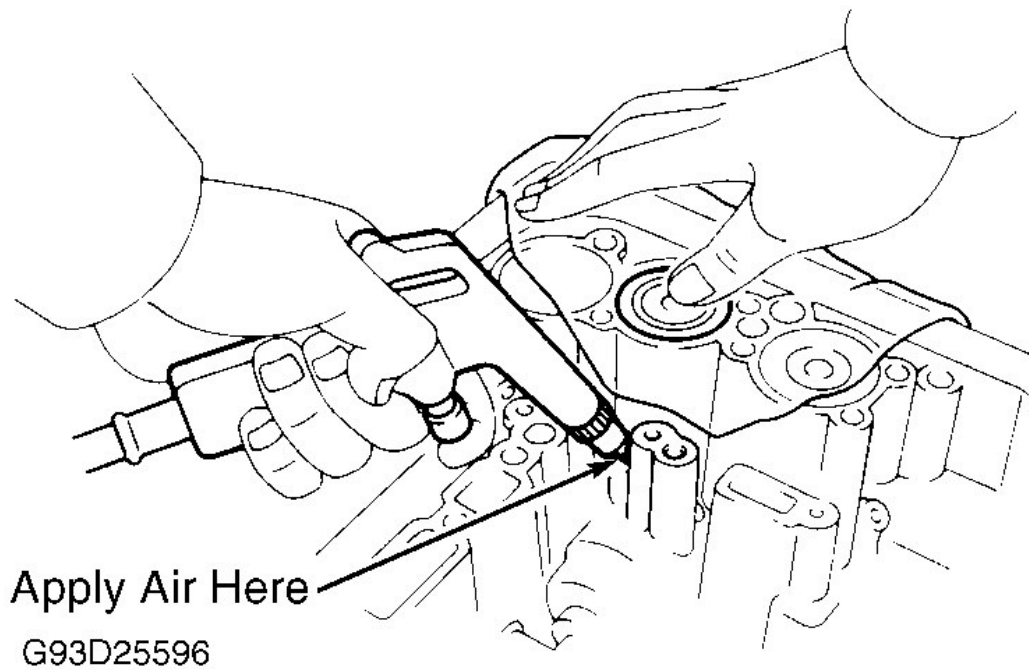
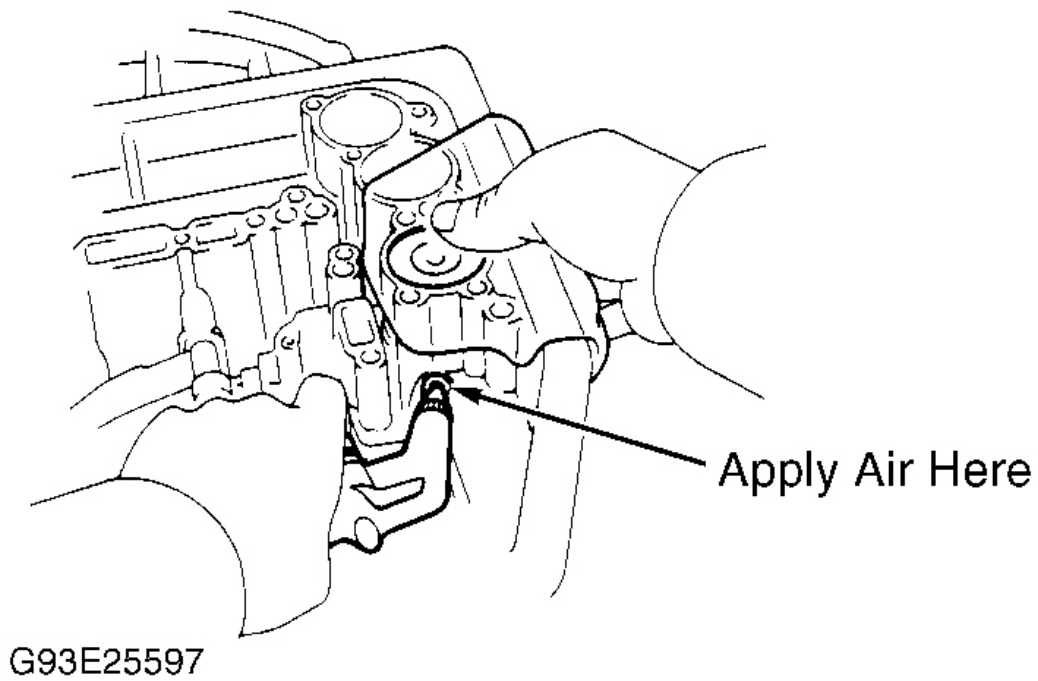

Fig. 15: Removing Direct Clutch Accumulator Piston & Spring
Fig. 16: Removing 2nd Brake Accumulator Piston & Spring
6. Apply 14 psi (1 kg/cm²) of compressed air to oil passage to remove direct clutch accumulator piston and spring. See **Fig. 15**. Apply 14 psi (1 kg/cm²) of compressed air to oil passage to remove 2nd brake accumulator piston and spring. See **Fig. 16**.